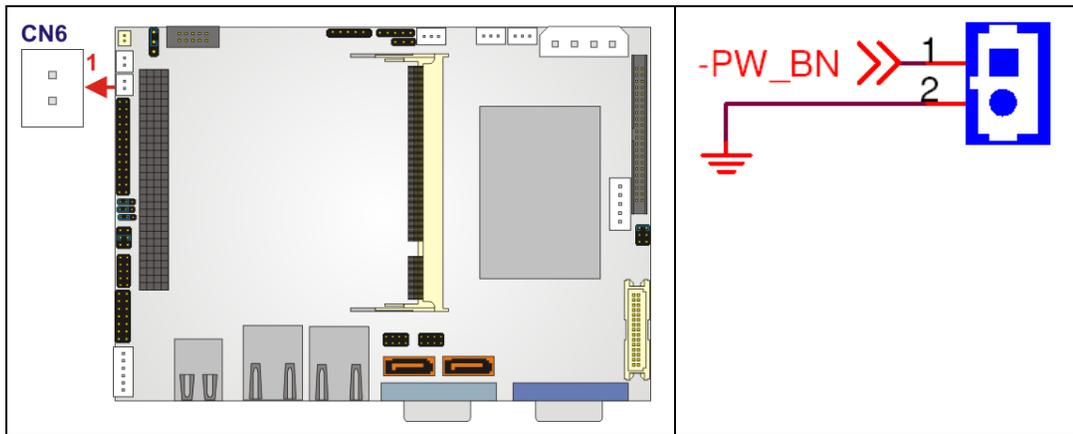

Figure 3-17: Power Switch Connector Locations
- CN Location:** See **Figure 3-17**